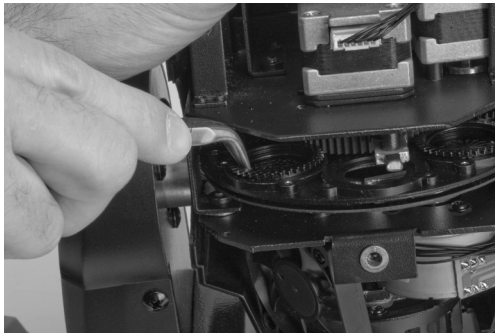

Figure 2
3. When you remove the shell you will be able to access the gobo wheel. Rotate the head so that the lens is aimed up (Figure 2). Turn the gobo wheel with your hand until you find the gobo you would like to change, then turn the color wheel until the empty space (spot) is below your desired gobo.